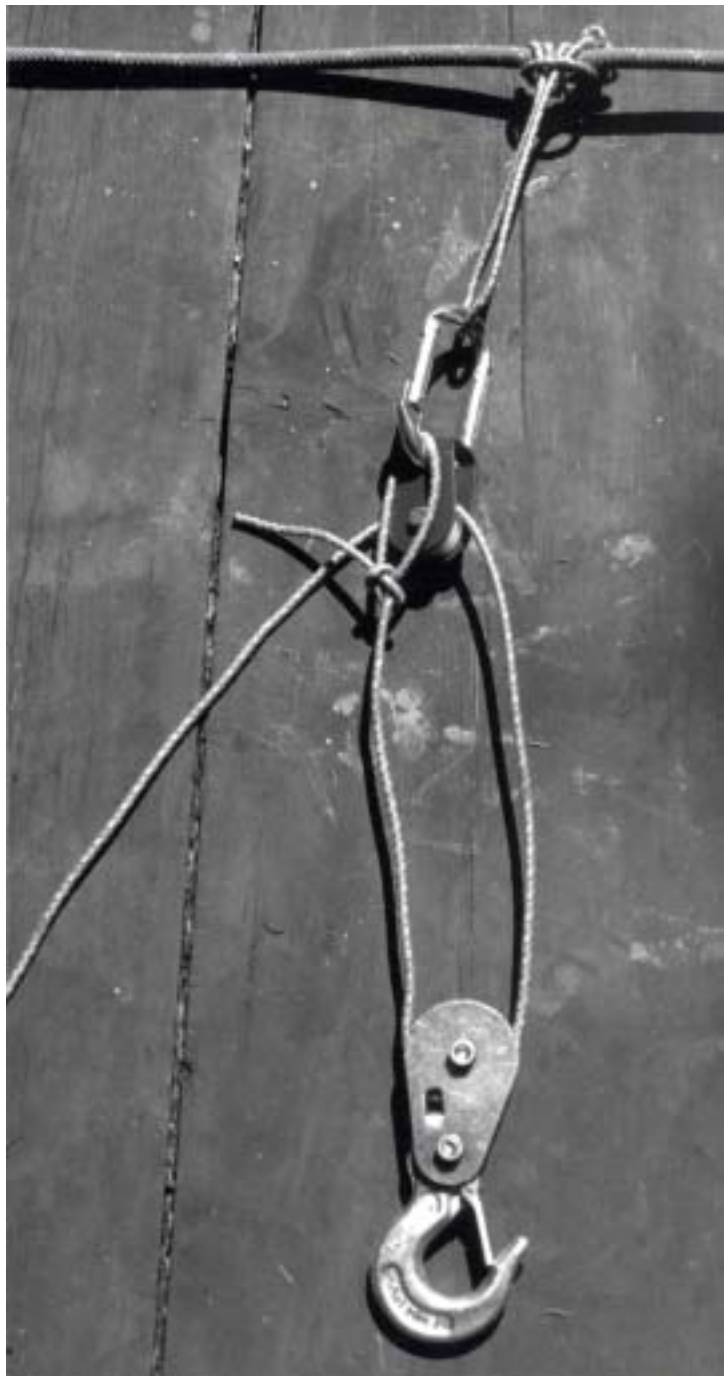

Figure 5.—“Single and single” block and tackle—recommended method for up to 110 pounds.
**Block and Tackle:** A single block offers no mechanical advantage to the lifter. You end up lifting the entire weight, and just changing the direction of pull. However, by adding another block to this arrangement and creating a “single and single” block and tackle (Figure 5), you can reduce the force needed to lift a load by half. Adding another pulley increases your mechanical advantage to 3:1. Place the block with the most pulleys at the top, to serve as the immobile, or fixed block. This would enable you to lift a 100-pound load by applying 33 pounds of force. Blocks and tackle can be purchased in a wide variety of sizes and configurations, or you can make them up easily yourself from two blocks. Often one has a cargo hook attached to one end. A lightweight variation using 3/4-inch webbing and rollers instead of pulleys is also available for about \$20. It offers a 5:1 mechanical advantage and has an 800-pound capacity, but only 9 feet of lift with the length of webbing provided. (See page 14 for some sources.)